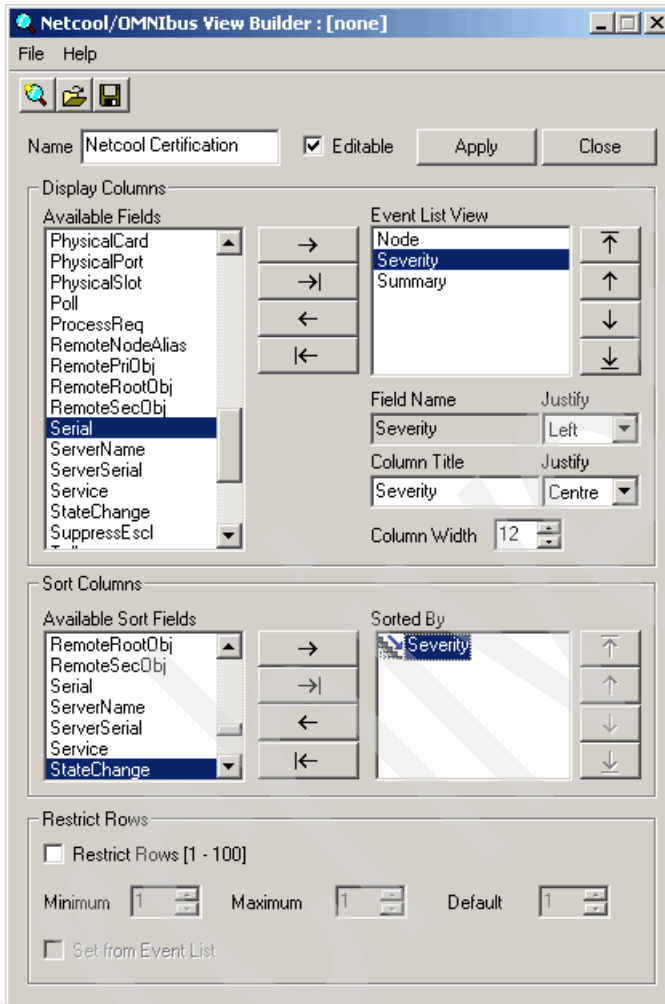

Figure 4-24 View Builder view
2. In the View Builder window (Figure 4-24 on page 119), select **File** → **New** and: